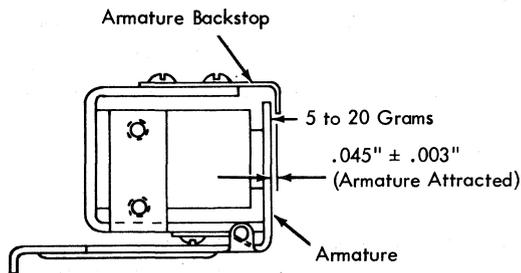

Figure 4-31. Selector Magnet
1. With armature attracted, set a clearance of $.045'' \pm .003''$ between back stop. Adjust by moving armature stop (Figure 4-31).
3. Check that chute blade exerts 5 to 20 grams pressure on selector magnet armature (check at point indicated, Figure 4-31). Form chute blade anchor as required to obtain correct pressure.